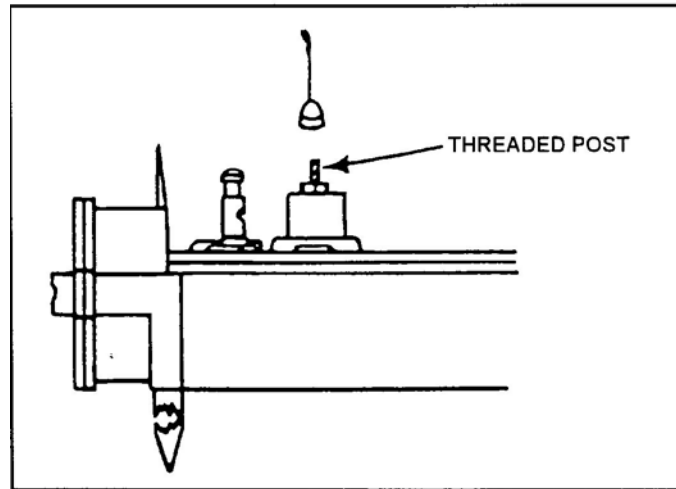

Figure 15. Detector antenna.
- (5) Close the battery compartment and tighten the screws.
b. Install the antenna (Figure 15). Screw the detector antenna onto the threaded post on top of the detector.